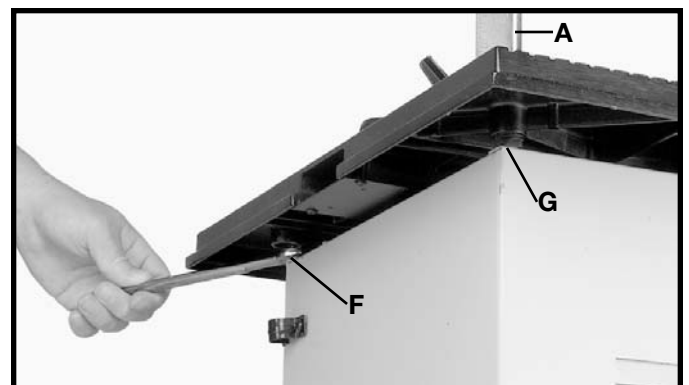

Fig. 26
6. Rotate leveling nut (F) Fig. 26, which is located at the rear of the machine and under the table counterclockwise as far it it will go up into the table.
7. Rotate leveling nut (G) Fig. 26, right or left until table surface (front and back) is 90 degrees to metal rod (A).
8. Turn leveling nut (F) Fig. 26, clockwise until it just contacts top of cabinet.